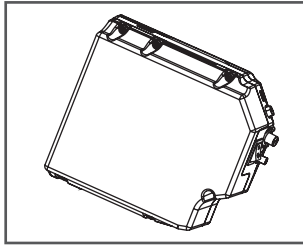

Figure 19
- (1). If lead-acid batteries is used, left and right battery boxes are provided and each battery box contains a lead-acid battery: red on the battery indicates the positive electrode and black indicates the negative electrode. The battery shall be replaced as follows:
- a. Loosen the 6 self-tapping screws from inside of the electric wheelchair (i.e. back of the battery box) and open the back cover, see Figure 19. The methods are same for left side and right side;